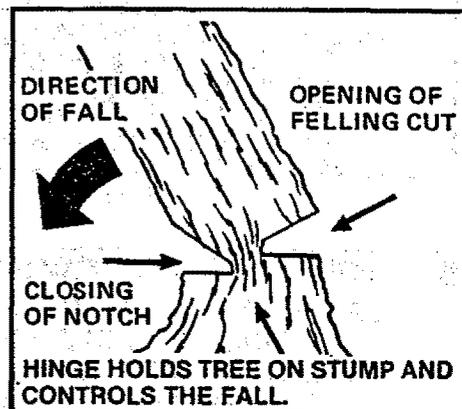

Figure 29
- c. Leave enough uncut wood between the felling cut and the notch to form a hinge. Figure 29.